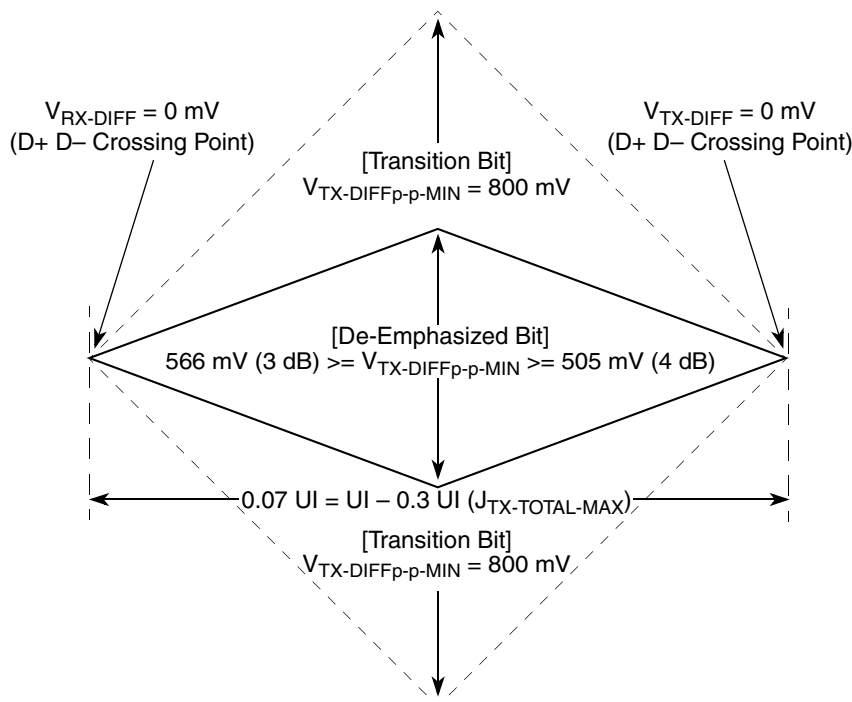

Figure 48. Minimum Transmitter Timing and Voltage Output Compliance Specifications
2. Specified at the measurement point into a timing and voltage compliance test load as shown in Figure 50 and measured over any 250 consecutive TX UIs. (Also see the transmitter compliance eye diagram shown in Figure 48.)
The TX eye diagram in Figure 48 is specified using the passive compliance/test measurement load (see Figure 50) in place of any real PCI Express interconnect +RX component.